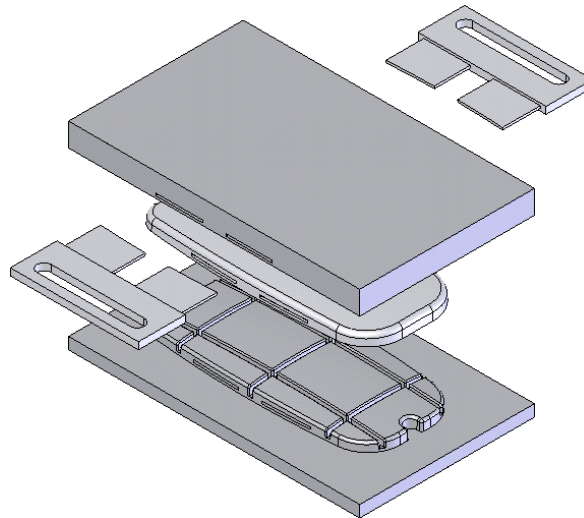

Figure 17-65 Exploded view of the Mold Base assembly
- Create the exploded view of the assembly, refer to Figure 17-65.
Next, you need to create the exploded view of the assembly, refer to Figure 17-65.